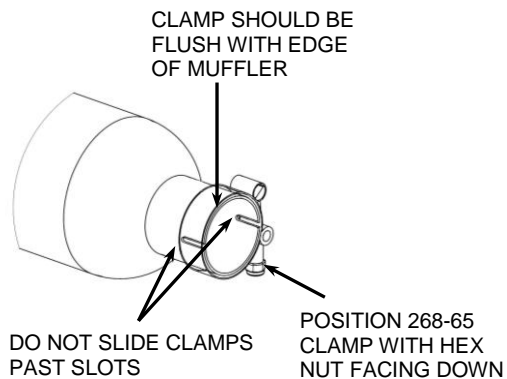

FIGURE 5
12. Position the supplied #268-65 muffler clamp with hex nut facing inward and down as shown in **FIGURE 5** and slide onto the muffler assembly inlet tube. (NOTE: The clamp should be flush with the end of the muffler when tightened. See **FIGURE 5**. If the clamp is slid past the slots on the muffler inlet the clamp will not tighten properly).
22. Tighten the muffler clamp (268-65). (NOTE: The clamp should be flush with the end of the muffler when tightened. See **FIGURE 5**. If the clamp is slid past the slots on the muffler inlet the clamp will not tighten properly).